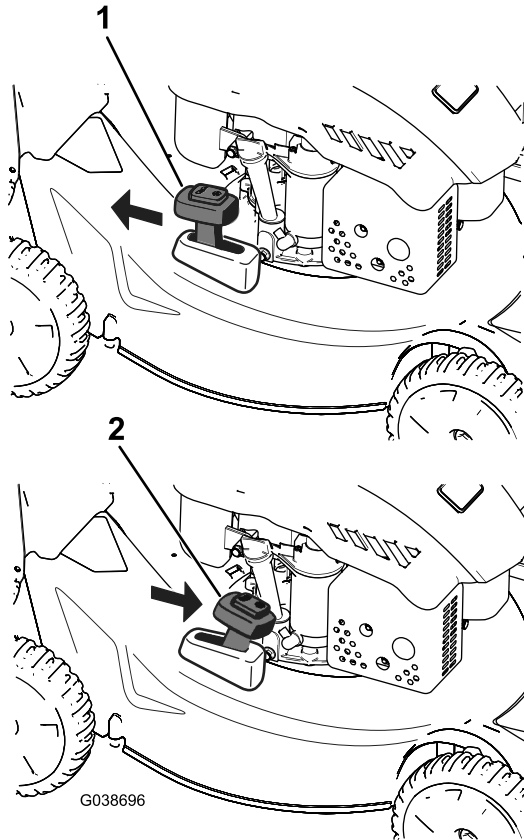

Figure 18
To recycle the clippings, move the bag-on-demand lever to the RECYCLING position (Figure 18).
2. Install the grass bag; refer to Installing the Grass Bag \(page 12\) and move the bag-on-demand lever to the BAGGING position as shown in Figure 18.
Note: If the grass bag is on the machine, remove it before rear-discharging the clippings; refer to Removing the Grass Bag \(page 13\). The bag-on-demand lever should be in the BAGGING position as shown in Figure 18.